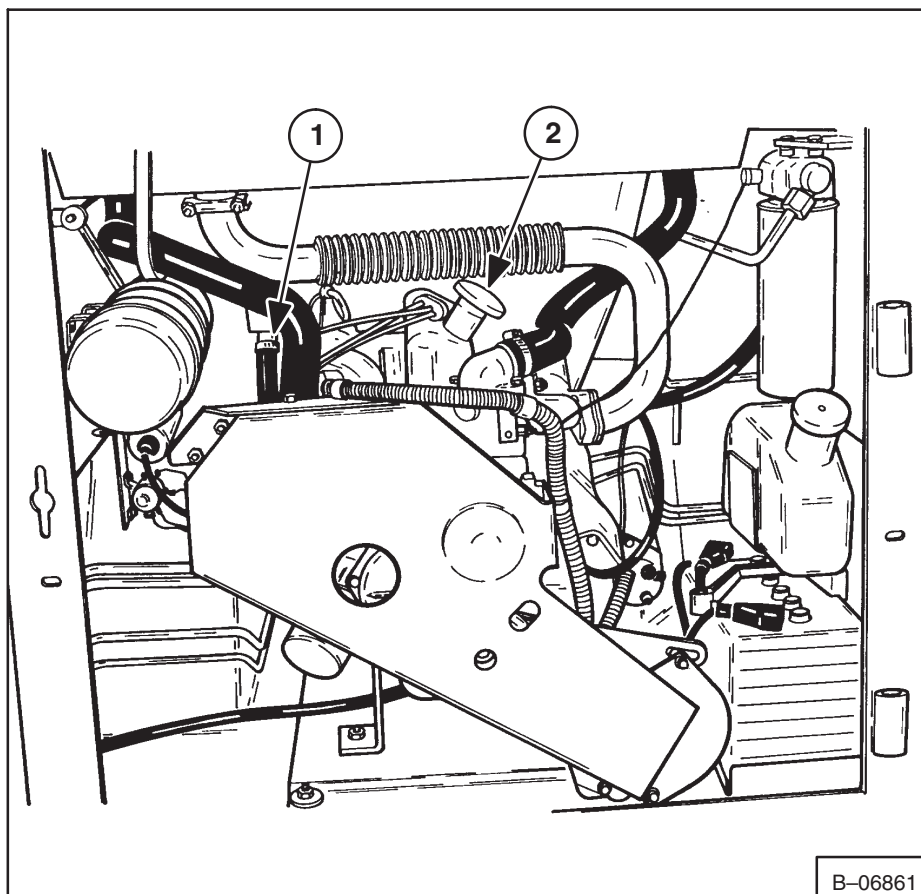

Fig. 1-11 Engine Servicing (642)
5. Install the oil plug. Remove the oil filler cap (641, Fig. 1-19, Item 2) (642, Fig. 1-11, Item 2) (643, Fig. 1-12, Item 3).